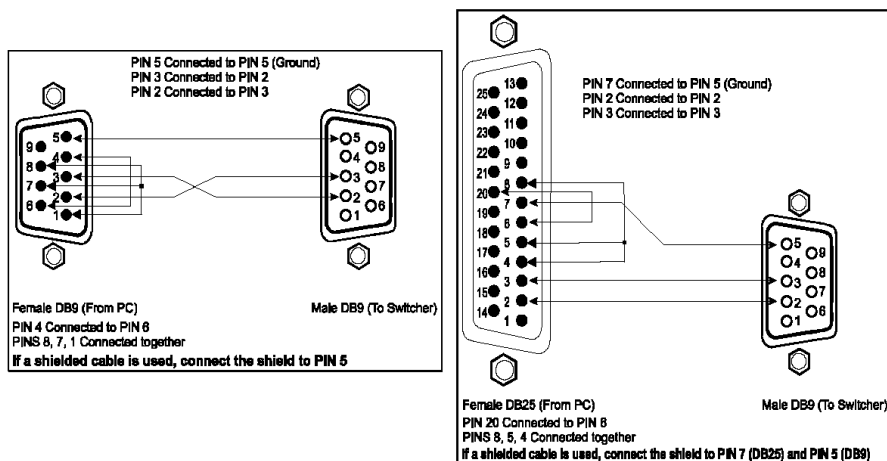

Figure 4: Connecting a PC without using a Null-modem Adapter
- Connect the RS-232 DB9 port on your PC to the RS-232 DB9 rear panel port on the Master **VS-4x4YCxl** unit, as Figure 4 illustrates (depending on whether the PC has a 9-pin or 25-pin connector)